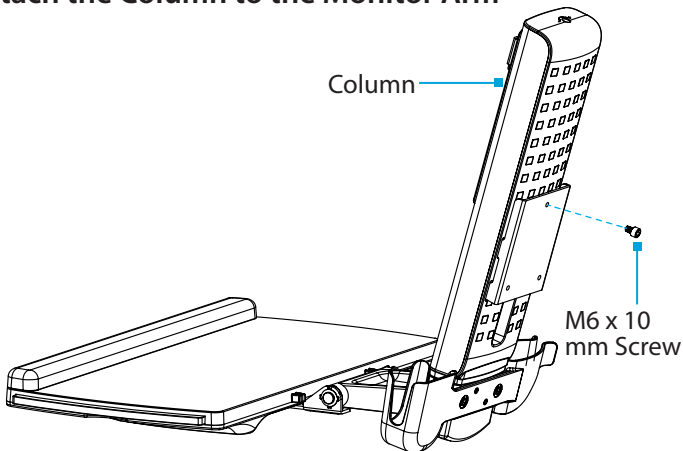

Figure 15
1. Thread an **M6 x 10 mm Screw** into the **Mounting Hole**, located in the top of the **Plate** on the back of the **Column**. (Figure 15)